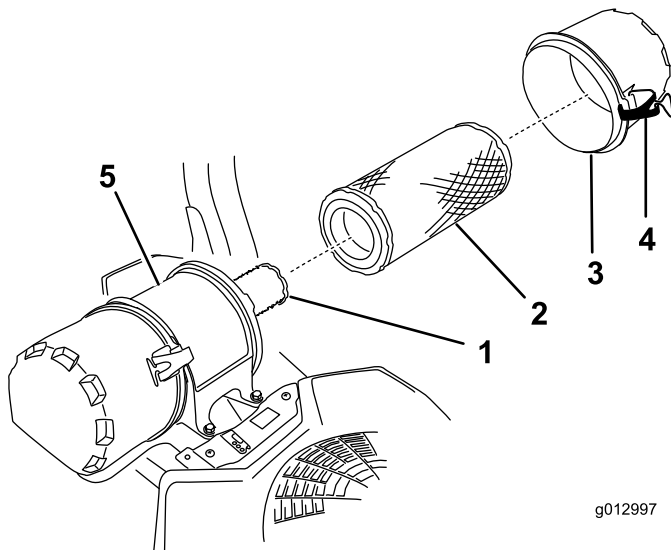

Figure 44
6. Release the latches on the air cleaner and pull the air cleaner cover off the air cleaner body (Figure 44).
8. Gently slide the primary filter out of the air cleaner body (Figure 44).
2. If the inner filter is being replaced, carefully slide it into the filter body (Figure 44).
3. Carefully slide the primary filter over the inner filter (Figure 44).
4. Install the air cleaner cover and secure the latches (Figure 44).